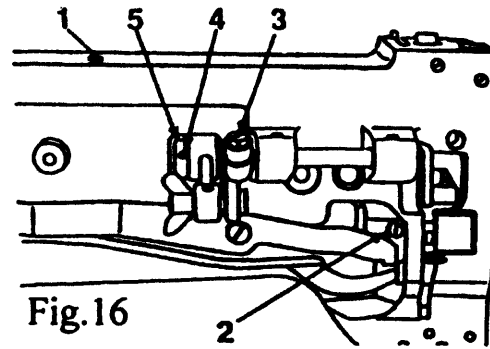

Fig.16
Loosen the screw(1.fig.16), raise the presser bar lifter and loosen the set screw(2.fig.16) ,move the lifting presser foot up or down as may be required so as to get the correct height and tighten screws.
If the height of the lifting presser foot changes, the momentums of the lifting and vibrating presser foot vary, thus the height of the vibrating presser foot must be adjusted. Lower the presser bar lifter, holding the vibrating presser foot and loosen the screw(3.fig.16) and move the presser foot up or down as may be required. After setting the position, tighten the screw.
19.TIMING OF THE VIBRATING PRESSER FOOT (Fig.16)
This is the normal timing when turn the pulley toward you, after lowing the presser bar lifter, the vibrating presser foot should reach the feed dog earlier than the needle eye comes to, and when the needle raises, the vibrating presser foot should leave the feed dog after the needle eye has left the feed dog. This is due the reason that the vibrating presser foot must tightly hold the goods while the needle is passing the goods for avoiding irregular stitches. To adjust this, set the lift of the alternating presser feet to equal, loosen the two screws(4, fig.16) and adjust the rotating position of the cam faster or slower as may be desired, and tighten the screws.